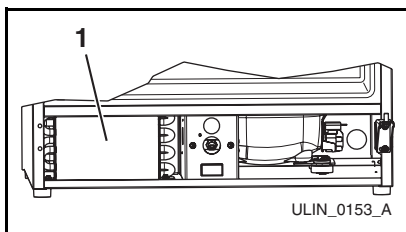

Figure 8
5. Clean the condenser coil (**Figure 8, 1**) using a using a soft brush with a "combing" action or vacuum cleaner. Do not touch the condenser coil.